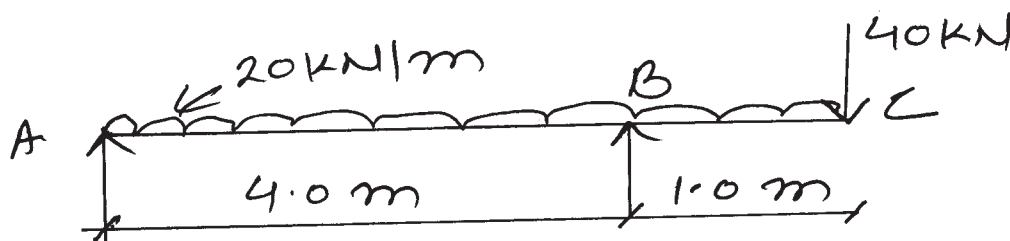

Fig. No. 5
- c) Draw SF and B.M. diagram for the overhanging beam as shown in Figure. No. 5